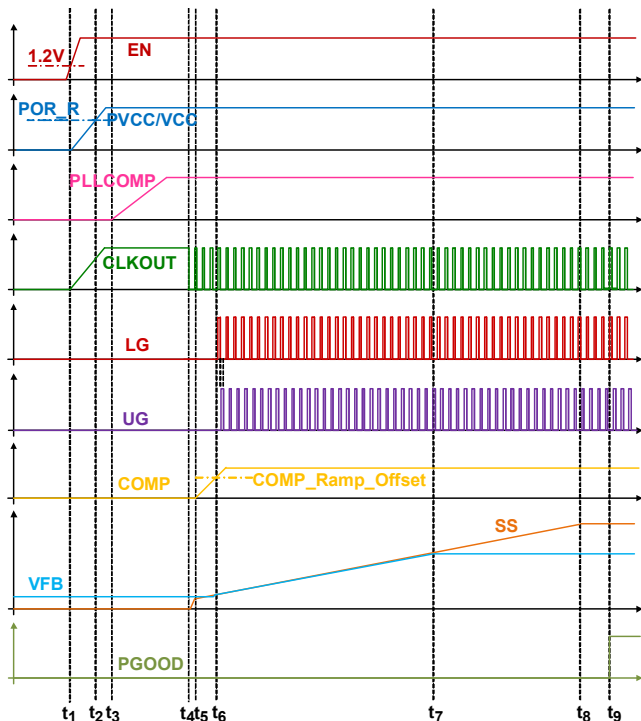

FIGURE 58. CIRCUIT INITIALIZATION AND SOFT-START
- There is no limit for the minimum voltage on the TRACK pin, but note the lower reference voltage and the lower voltage feedback regulation accuracy. Note the SS_DONE signal is checking $V_{REF_TRK} \geq 0.3V$ as one of the conditions (refer to Figure 58 on page 29 and the t_g - t_g description on page 29). Also, for the boost converter, the regulated output minimum voltage is usually the input voltage minus the upper MOSFET's body diode drop, in which case, the corresponding voltage at FB voltage is the minimum effective voltage for the V_{REF_TRK} .
Before converter initialization, the EN pin voltage must be higher than its rising threshold and the PVCC/VCC pin must be higher than the rising POR threshold. When these conditions are met, the controller begins initialization and soft-start. Figure 58 shows the ISL78227 internal start-up timing diagram from the power-up to soft-start.
Assuming input voltage is applied to the VIN pin before t_1 and VCC is connected to PVCC, as shown on Figure 58, the descriptions for start-up procedures are described as follows:
Diode emulation occurs during t_5 - t_8 (on Figure 58 on page 29), regardless of the DE/PHDRP operating modes (Table 2).